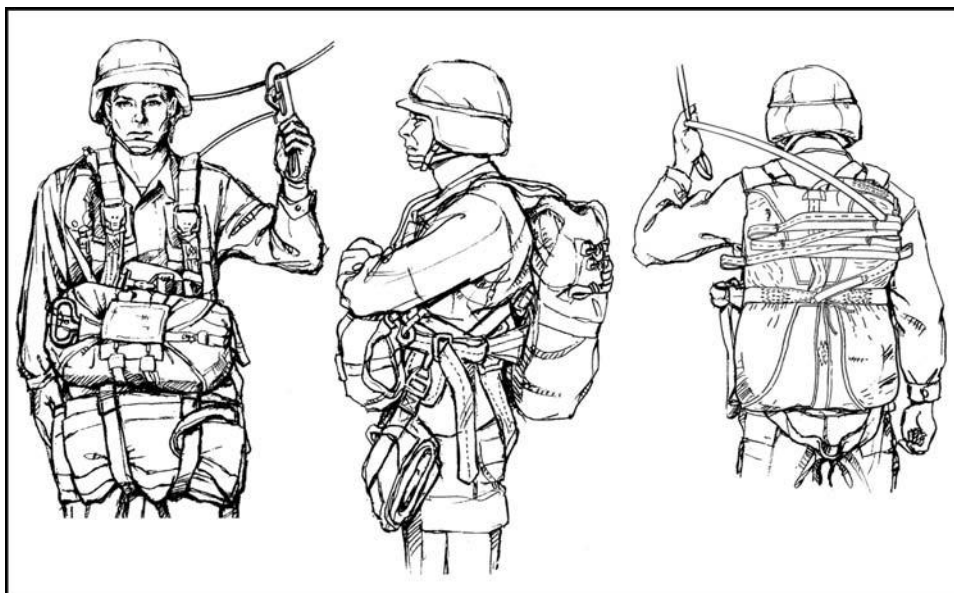

Figure 2-10. Troop parachute harness fitted.
(1) Activates the waistband quick-release and pulls up each of the activating levers on the ejector snaps, releasing the leg straps and the chest strap.
(2) Checks for appropriate size and, if necessary—
STEP 6: Number 2 locates the free-running ends of the horizontal back strap and tightens the harness until number 1 indicates it fits snugly and comfortably. The horizontal back strap is the main point of adjustment for the harness. After final adjustment, number 1 should be able to stand fully erect without straining (Figure 2-10).